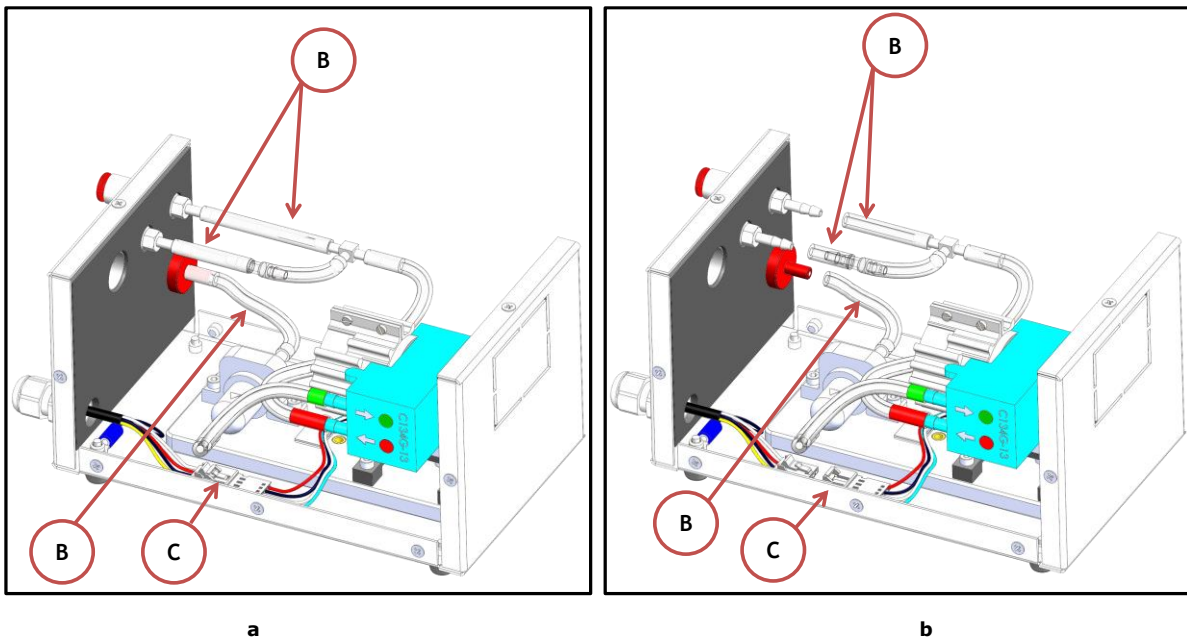

Figure 59. Tubing disconnections inside the OKO-AP-3L.
2. Disconnect the silicone tubing inside the OKO-AP-3L from the frontal panel (B in Figure 59) and the connector indicated with C in Figure 59, a and b.
7. Reconnect the silicon tubes indicated with B in Figure 59 and the connector indicated with C in Figure 59 and reassemble the cover on OKO-AP-3L.